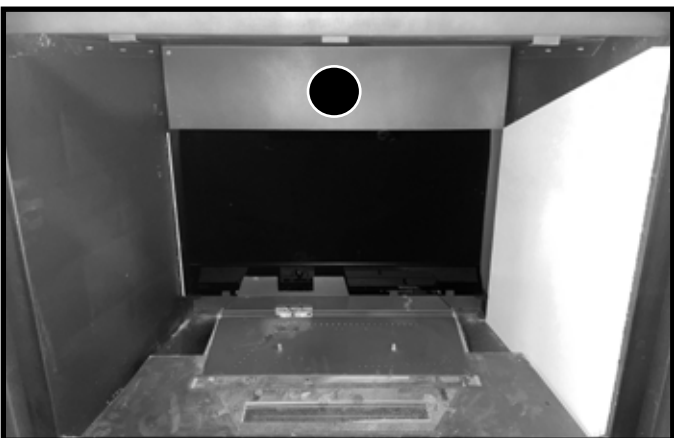

Figure 11.17 Rear Glass Panel and Side Insulation Board Installed
7. Hold rear glass panel in place and slide one side insulation board into position as shown in Figure 11.17.